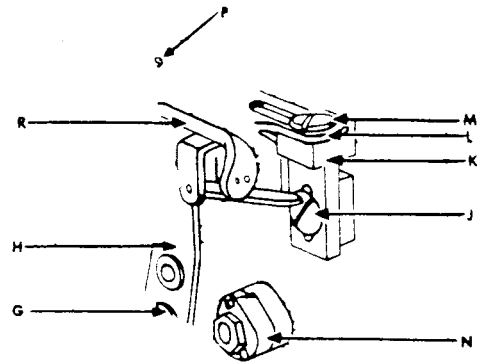

Fig. 24.
When threading, turn machine pulley to raise needle to its highest point. Thread needle thread bridge bracket K Fig. 24, Page 14, making sure that thread is under the thread (needle) controller "H" (Fig. 24, Page 14).
- (1) Replace the needle holder washer on needle carrier "N" (Fig. 24, Page 14) with needle holder washer and thread (needle) controller "S" (Fig. 23). Thread as illustrated in Fig. 23.
- (2) Slacken thread eyelet screw "P" (Fig. 24, Page 14) and move thread eyelet "R" (Fig. 24, Page 14) forward for slacker stitch and backwards for tighter needle thread stitch. Tighten screw "P" (Fig. 24).
- (1) Loosen thread eyelet screw "P" (Fig. 24, Page 14) and position thread eyelet "R" (Fig. 24) so that needle thread is in contact with needle carrier "N" (Fig. 24) at its lowest point.
- (2) Adjust needle thread tension as loosely as possible for satisfactory stitching.
- (1) Remove machine frame oil guard (top). Loosen thread (needle) controller screw "G" (Fig.24) and move thread (needle) controller "H" (Fig.24) until screw is in centre of slot. Tighten screw "G" securely. Replace machine frame oil Guard (top).
- (2) Loosen needle thread bridge bracket screw "J" (Fig.24) and move bracket "K" (Fig.24) until screw is near top end of slot and in line with thread tube. Tighten screw "J".
- (3) Loosen thread eyelet bridge screw "M" (Fig.24) and position thread eyelet bridge "L" (Fig.24) so that needle thread holes are in line with thread tube.
- (4) For tighter needle stitch, raise needle thread bridge bracket "K" (Fig.24) as required. Additional adjustment is provided by moving the thread eyelet bridge "L" (Fig.24) forward. The two needle threads and the looper thread should tighten at the bottom of the needle stroke in order to set a balanced stitch.
- (1) Remove machine frame oil guard (top). Loosen thread (needle) controller screw "G" (Fig.24) and move thread (needle) controller "H" (Fig.24) forward until screw is near front end of slot. Retighten screw "G" and replace machine frame oil guard (top).